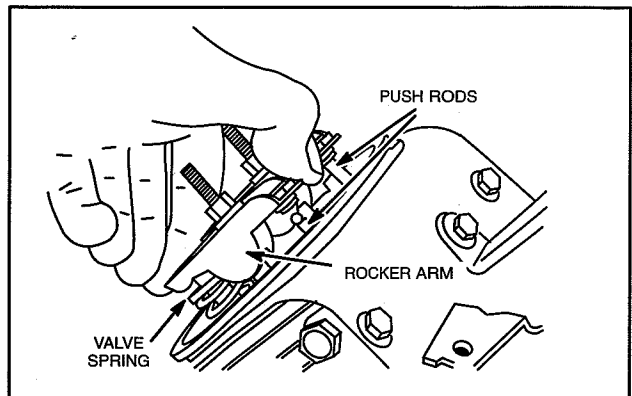

Fig. 16 – Install Push Rods
1. Compress valve spring with rocker arm and insert push rod into rocker arm socket, Fig. 16.